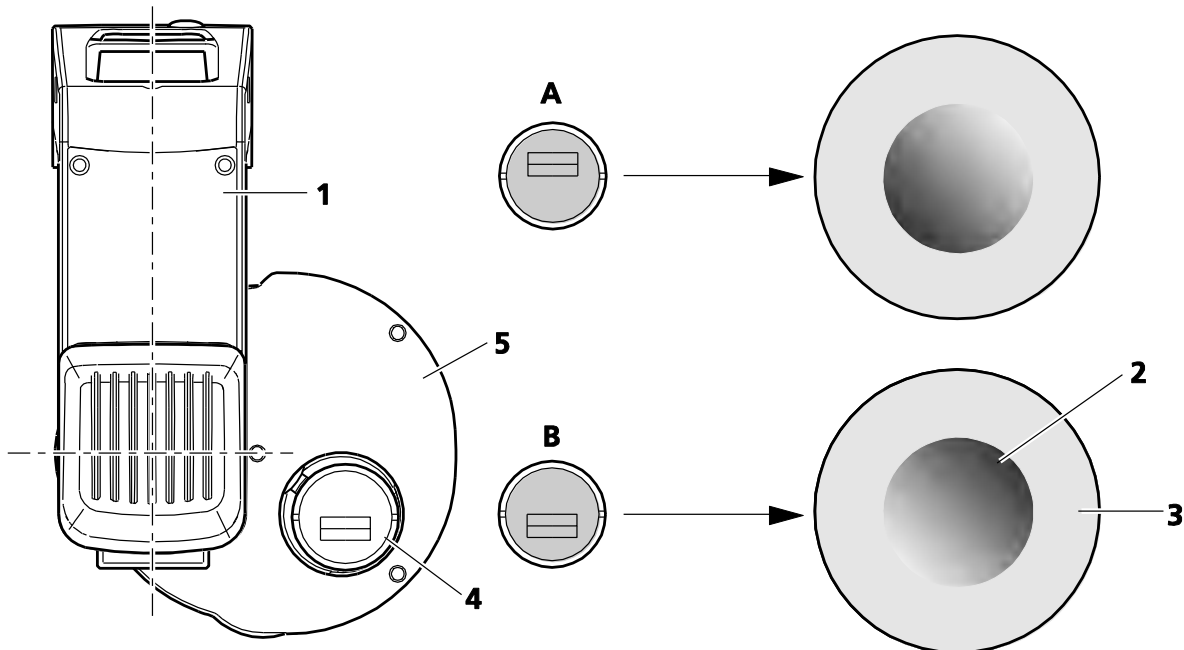

Fig. 4-9 Setting Relief Orientation on the iHMC
- Rotate in the condenser (Fig. 4-9/5) in such a way that its change position (Fig. 4-9/4) is located on the right-hand side of the transmitted light illumination carrier (Fig. 4-9/1). For this purpose, turn the clamping ring on the condenser to the left, lift it briefly and then rotate the condenser 90 degrees to the right until it locks into position.
- Rotate the iHMC position of the condenser into the change position (Fig. 4-9/4).
You can individually position the diaphragm of the iHMC module in the mount, according to the desired orientation of the relief impression (Fig. 4-9/2) in the field of view (Fig. 4-9/3). For that, see Examples **A** and **B** in Fig. 4-9.